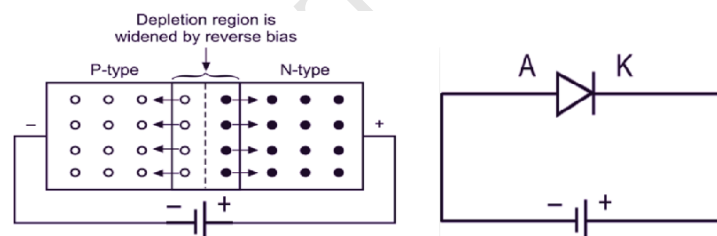

Figure 1.5: Reverse Biasing of the Diode
- The Fig. 1.5 shows the reverse biased diode. The reverse voltage across the diode is V_R while the current flowing is reverse current I_R flowing due to minority charge carriers. The graph of I_R against V_R is called reverse characteristics of a diode.